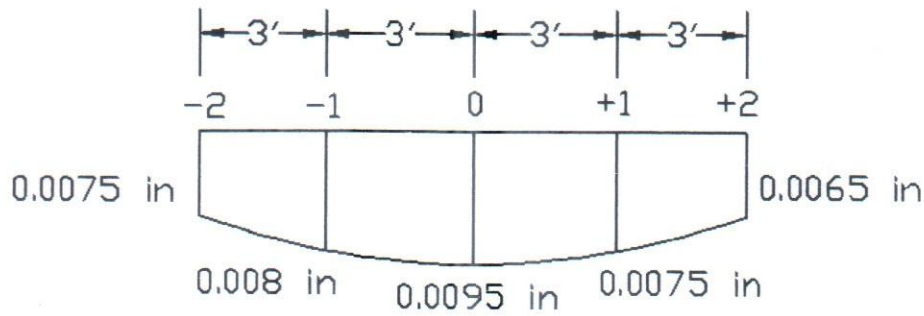

Figure 2
6. (a) Experimentally observed value of deflection of a beam are shown in the **Figure 2**. (10)